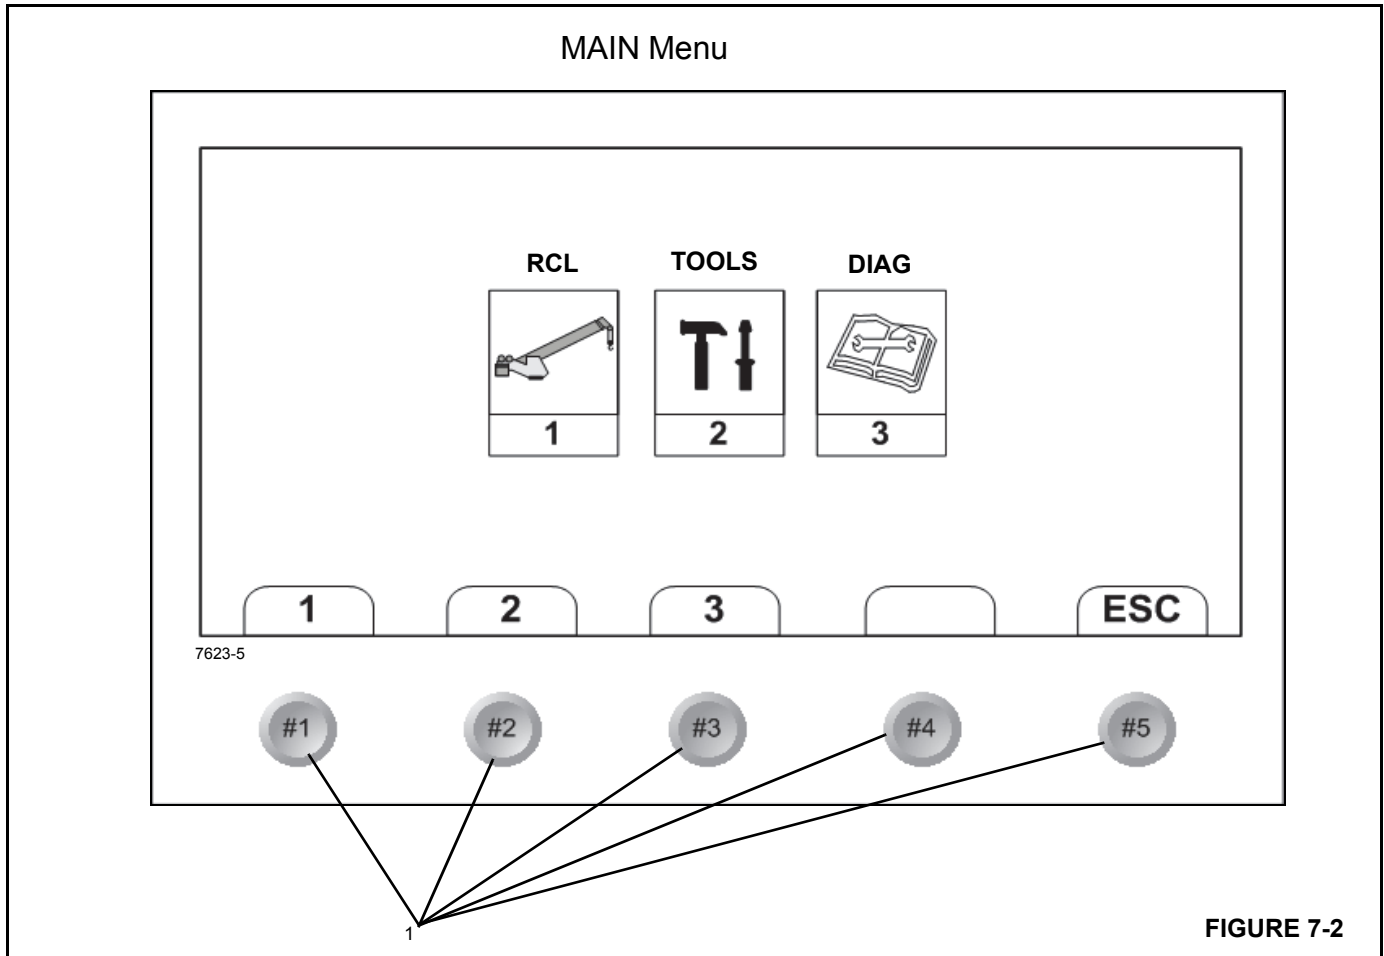

FIGURE 7-2
The MAIN Menu screen (Figure 7-2) is divided into the following three major sections which are used to set-up, operate, calibrate and troubleshoot the Rated Capacity Limiter system.
- **RCL Set-Up** - Select function key 1 (Figure 7-2) to configure the RCL system. This screen includes configuration and establishing operational limits for the boom, outrigger, hoist, reeving. The RCL Set-Up screen also includes the operating mode screen, see page 7-4.
- **Tools** - Select function key 2 (Figure 7-2) to access the tools screen, see page 7-12. This screen includes:
- **Diagnostic** - Select function key 3 (Figure 7-2) to access the RCL diagnostic menu, see page 7-17. This menu includes:
The Main Menu screen has five *function keys* (1, Figure 7-2) that are used to select the functions shown on the display screen above each key.
NOTE: On start up of the RCL, the National Crane logo screen will appear for approximately 5-10 seconds then Screen #1 (page 7-6) appears, to return to the Main Menu screen (Figure 7-2) select ESC.